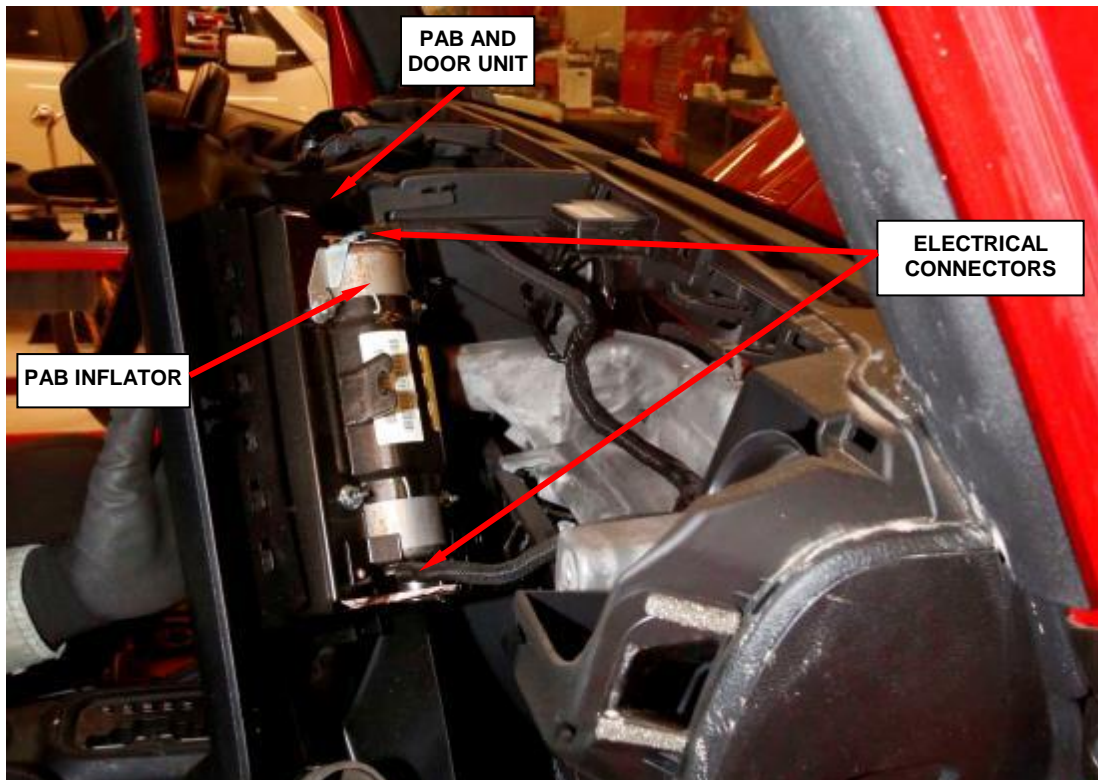

Figure 138 – Electrical Connectors
28. Grasp the lower edge of the PAB door and pull the door and PAB unit rearward far enough to access the two instrument panel wire harness connections to the PAB inflators at each side of the PAB housing (Figure 138).
29. Disconnect the two panel wire electrical connectors from the PAB inflators. Firmly grasp and pull the lock straight out from the connector insulator, then pull the insulators straight out from the inflator to disconnect them from the connector receptacles (Figure 138).